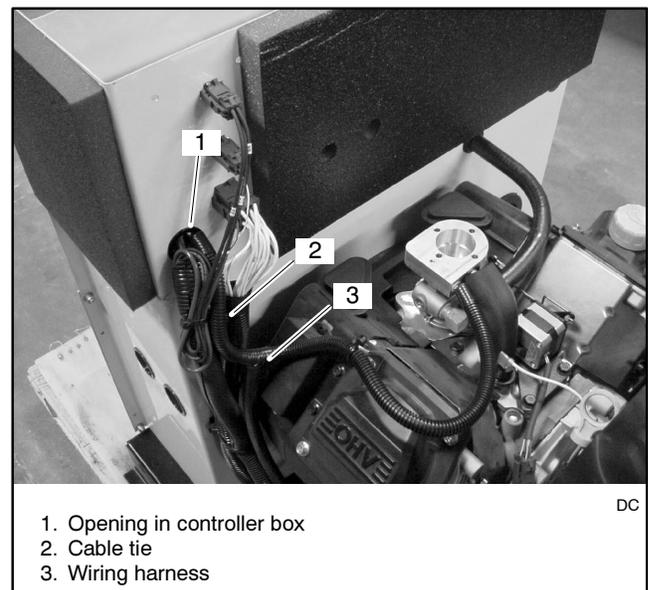

Figure 17 Routing the Wiring Harness
1. Route the heater wiring harness toward the back of the engine. Bring the thermostat and diode leads through the controller box opening in the lower corner as shown in Figure 17.